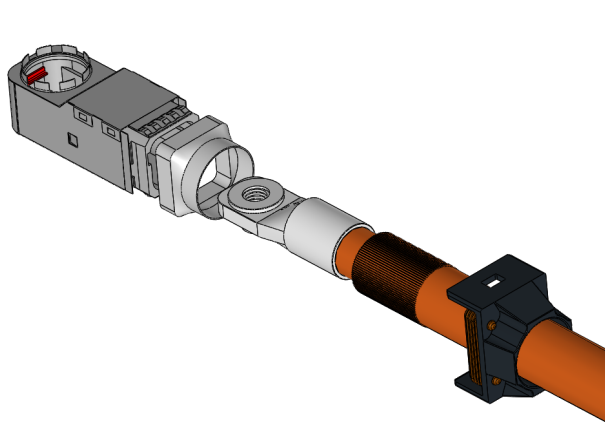

Figure 6.1.1
**Step 6:** Install the shielding ring and the plug shielding shell assembly to wire (Figure 6.1.1&6.1.2)